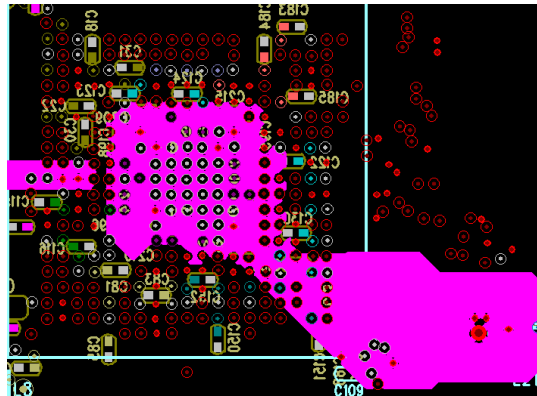

Figure 2 POR waveform
- HME recommends using the V_{DD_CORE} plane as shown in Figure 2.